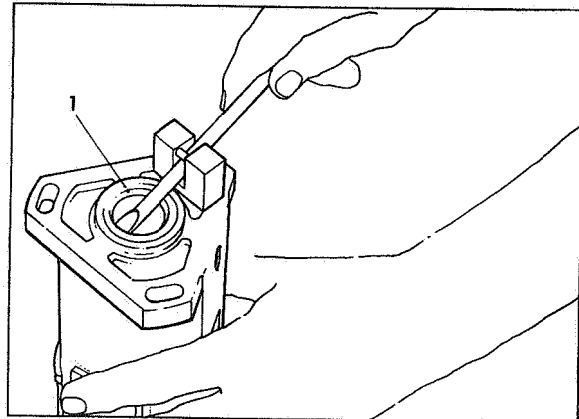

Fig 10 Removing drive hub seal
Withdraw drive hub from housing. Remove pump from fixture. Carefully note the way the drive hub seals are inserted then extract and discard drive hub seal (1) as shown in Fig 10 using Tool Part No 7044-893. Remove housing circlip with circlip pliers. Extract and discard second drive hub seal, again using Tool Part No 7044-893.